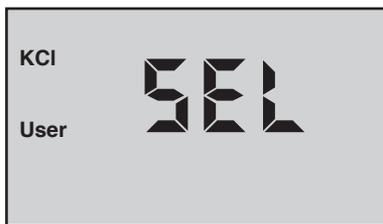

Figure 29
- Press  or  keys to select a Standard Solution to be linked to the “User” mode calibration constant (see Figure 29). “User” is linked to “KCl”.